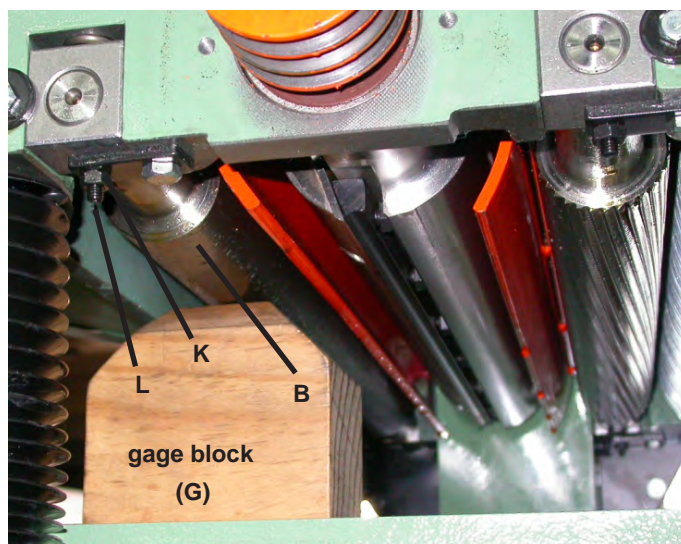

Fig 32
4. Move the gage block (G) under one end of the outfeed roller (B) as shown in Fig. 32. The bottom of the outfeed roller should just touch the top of the gage block. If an adjustment to the outfeed roller is necessary, loosen the lock nut (K) Fig. 32. and turn screw (L) Fig. 32 until the outfeed roller just touches the gage block. Then tighten lock nut (K) as shown in Fig. 32.